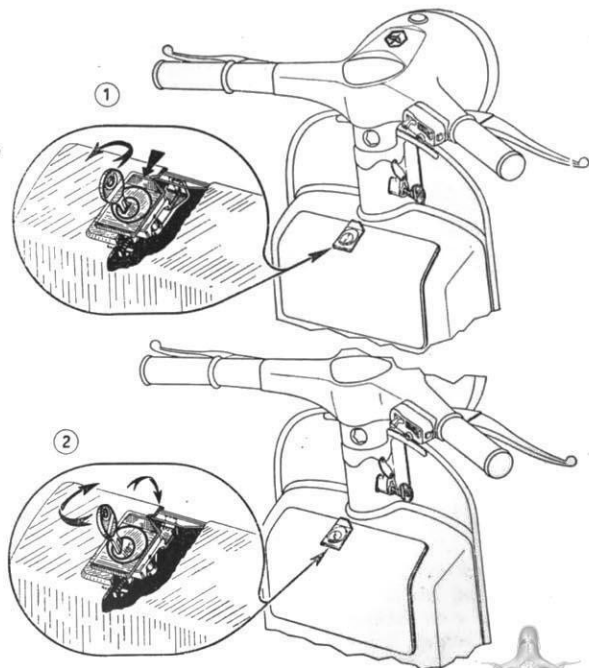

Fig. 4 - Front tool box lock
2. Front tool box lock	To open the flap door of the front box insert the key in the lock and turn it fully anticlockwise, then slide down the external plaque of the lock (fig. 4). In order to close it, close the flap door until the lock clicks against the tool box; then turn the key clockwise and withdraw.